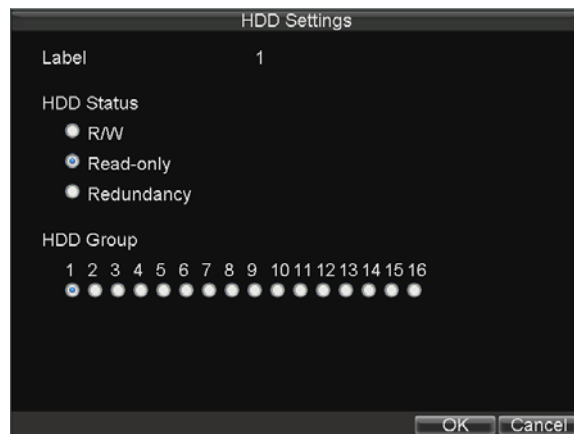

Figure11. HDD Settings
5. Set **HDD Status** to Redundancy, shown in Figure 11. Verify at least one other HDD is set to R/W (read/write).